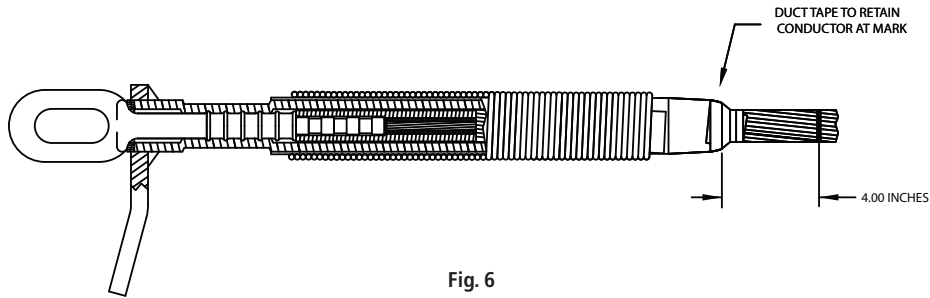

Fig. 6
6. The "Core Grip" assembly must remain tight against the aluminum strands and Steel Eye prior to detonation. (Reference: Steps 3 and 4.) To maintain a tight assembly: use "Duct Tape" to secure. Wrap onto end of barrel, then conductor, to hold conductor tight within assembly. See Fig. 6. Measure from end of the Barrel to 4 inch "Mark" to ensure the conductor has not pulled out.